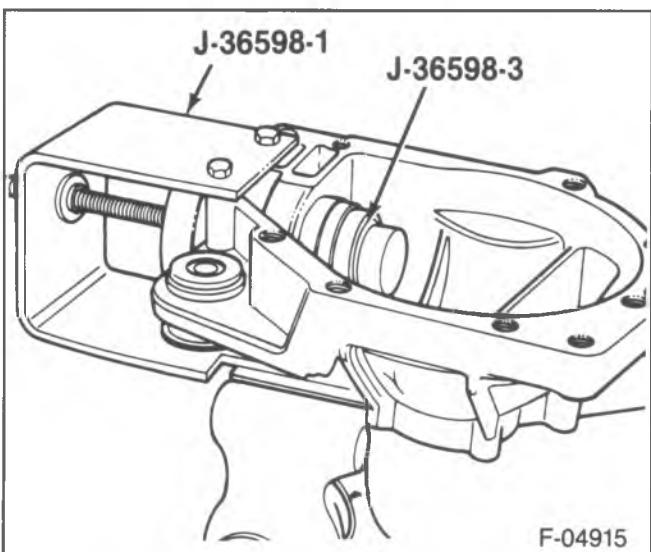

Figure 98—Installing Inner Pinion Bearing Cup
- Inner pinion bearing cup (39) into the case using J-36598-3 or J-36598-4 (figure 98).
- Proper shim (38) onto the pinion gear (37).